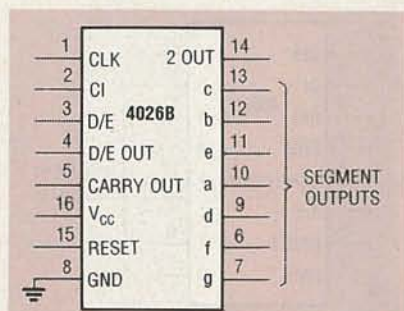

FIG. 21—PINOUT of the 4026B decade counter with 7-segment outputs.
Figure 21 shows the pinout of the 4026B, a complete decade counter with integral decoder driver circuitry. It can drive a 7-segment common-cathode LED display directly. The segment output currents are internally limited to about 5 mA with a 5-volt supply or 10 mA with a 10-volt supply. Therefore, the display can be connected directly to the output of the IC without external current-limiting resistors. The 4026B does not include a data latch and is not capable of ripple blanking.
As shown in the Fig. 21, the 4026B has four input control pins and three auxiliary output pins. The input pins are designated: CLOCK (CLK), CLOCK INPUT (CI), RESET (RESET), and DISPLAY/ENABLE (D/E). The IC includes a Schmitt trigger on its CLK (CLK) input line, and clock sense *continued on page*